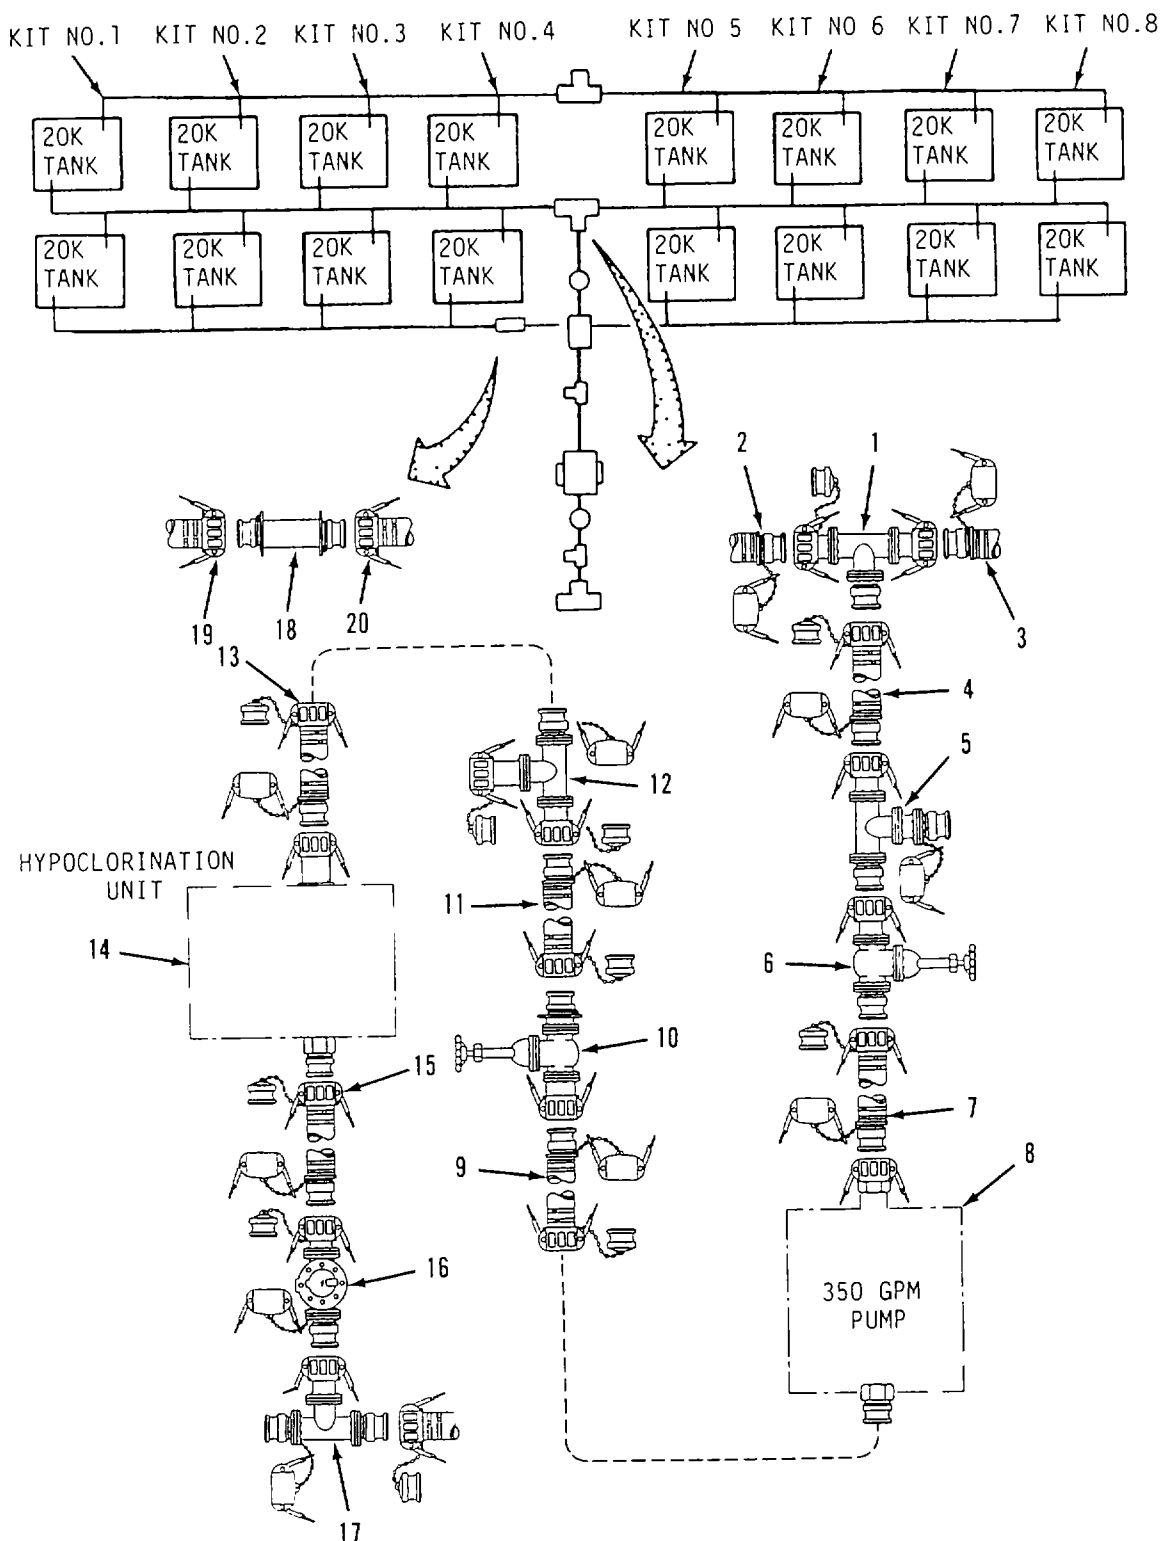

Figure 2-32. 350 Gpm Pump Connection Kit (Distribution Point) Disassembly.
h. Disassemble 350 Gpm Pump Connection Kit (Distribution Point). Refer to figure 2-32.